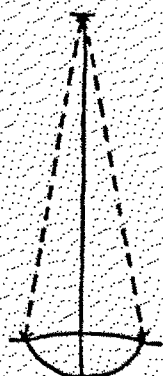

fig. 15
2. Make sure it is in the middle of the boat. Check it as soon as you get your boat. (*fig 15*)